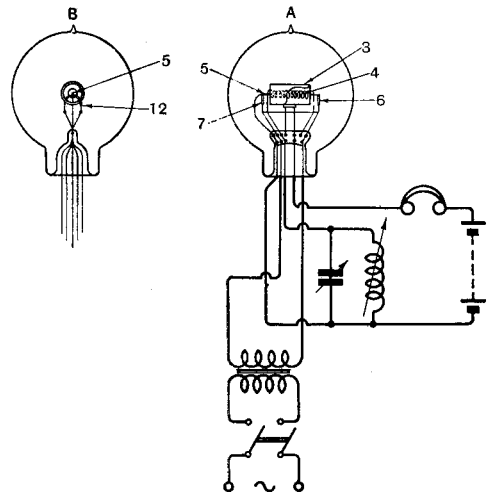

Fig. 3.
Referring to Fig. 3, A is a side view, and B an end view. The valve contains an anode (3), grid (4), and cathode (5). Along the axis of the electrodes 3 and 4, which are arranged concentrically, is the cathode (5), which is carried at its ends by the two pieces (6) and (7), consisting of a material having a high resistance.